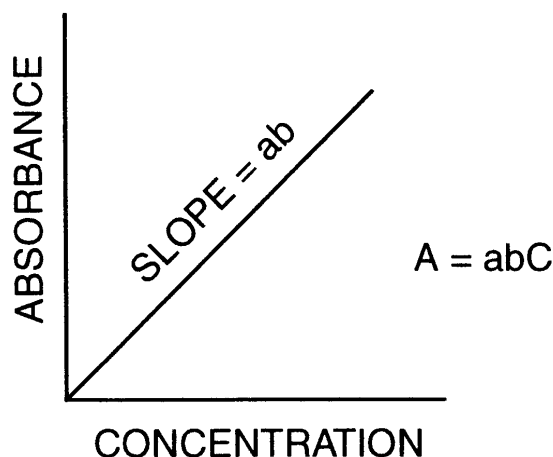

Figure 13-15. Concentration vs. Absorbance
Another convenient way of representing the intensity of absorbance of infrared energy is in Absorbance Units (AU). Like transmittance, absorbance can also be expressed as a ratio in terms of the intensity of incident vs. transmitted IR energy: $A = \log_{10} I_0/I$. Since %T varies exponentially with intensity of transmitted light, a plot of absorbance vs. concentration is linear (Figure 13-15).